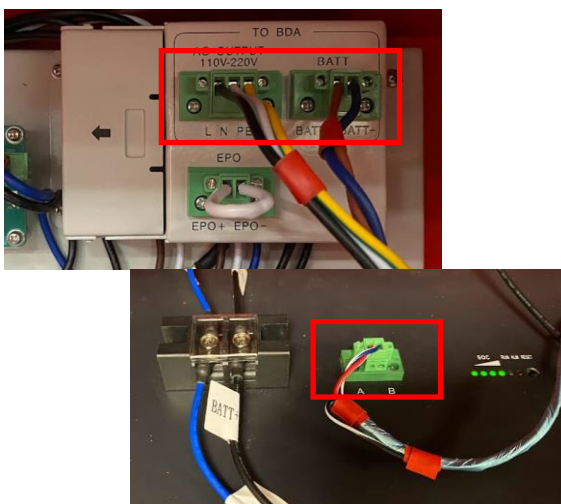

Figure 7: BBU Cable Connection
- Connect the <connectorized end> to the BBU as Figure 7 shows, then run the cable through a 3/4" knockout (recommended) from the BBU to a 3/4" knockout on the BDA, then into the BDA for connection. The cable can run through a conduit or from liquid tight connectors for water proofing.
- .1 (AC) Black to L
- .2 (AC) White to N
- .3 (AC) Green/Yellow to GND
- .4 (DC) Brown to BATT+
- .5 (DC) Blue to BATT-